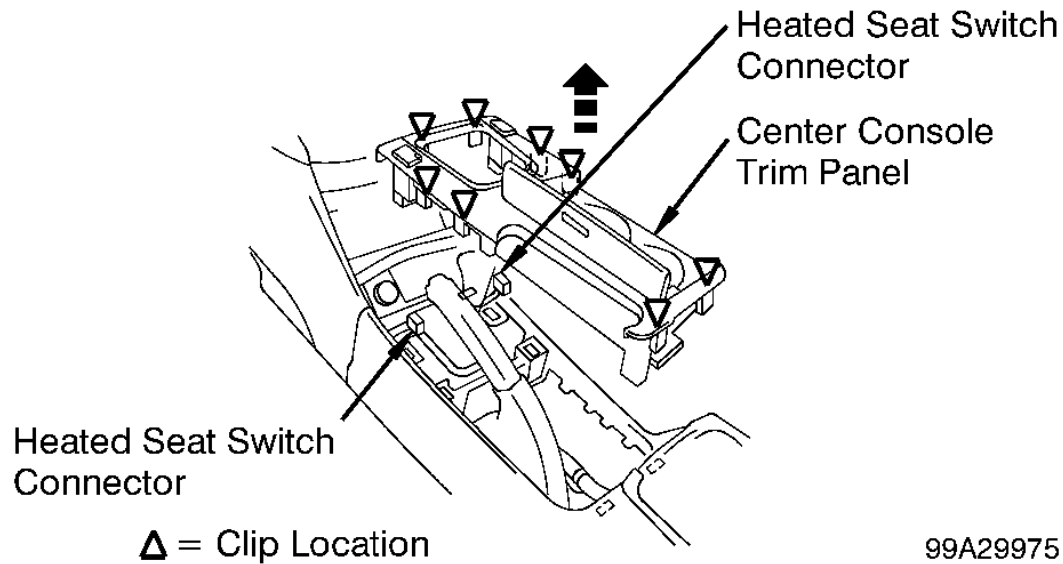

Fig. 12: Identifying Center Console Trim Panel
2. Starting at front, pull up on center console trim panel, detaching clips. See **Fig. 12** . Disconnect heated seat switch connectors, if equipped and remove center console trim panel.